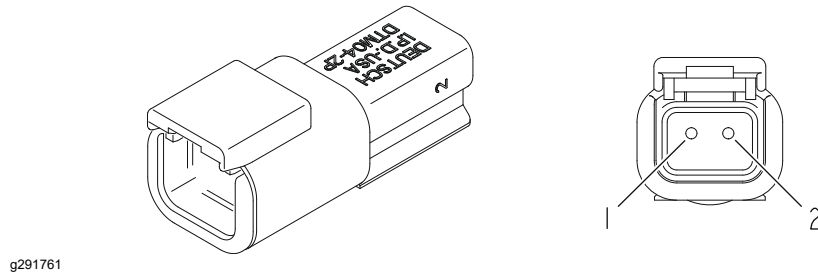

Figure 63
1. The CAN-bus terminator resistor (Figure 63) can be tested using a digital multimeter (ohms setting). Locate the CAN-bus terminator resistor and remove the cable tie that secures the resistor to the wire harness. Unplug the resistor from the wire harness for testing.